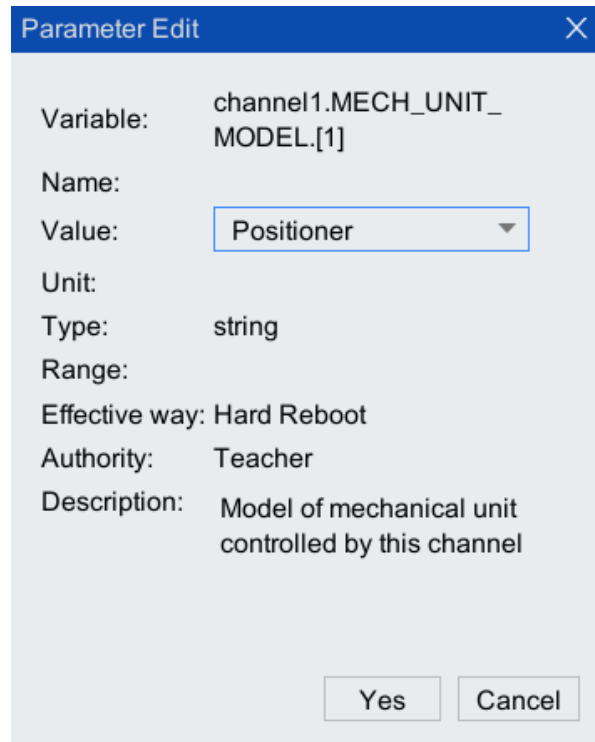

Figure 4-6 Mechanical unit model configuration interface
- Step 9. Click <Edit>, and the dialog box shown in Figure 4-6 will pop up. Configure the parameter in [Value] as "Positioner", click <Yes>.